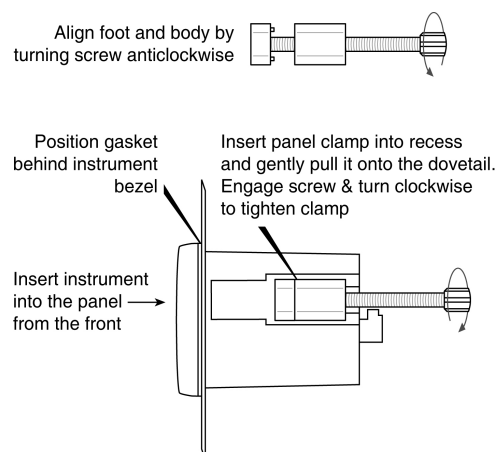

Fig 5 Fitting panel mounting clamps
- Place a clamp in the recess on each side of the Rate Totaliser, pulling gently to slide it onto the dovetail as shown in Fig 5. Push the knurled screw slightly forward to engage the thread and tighten by turning clockwise until it is just finger tight. When all four clamps are fitted ensure that the gasket behind the front panel bezel is correctly positioned before fully tightening the clamps to secure the instrument. The maximum recommended clamp tightening torque is 22cNm (1.95 lbf in) which is approximately equivalent to finger-tight plus one half turn. **Do not over tighten.**